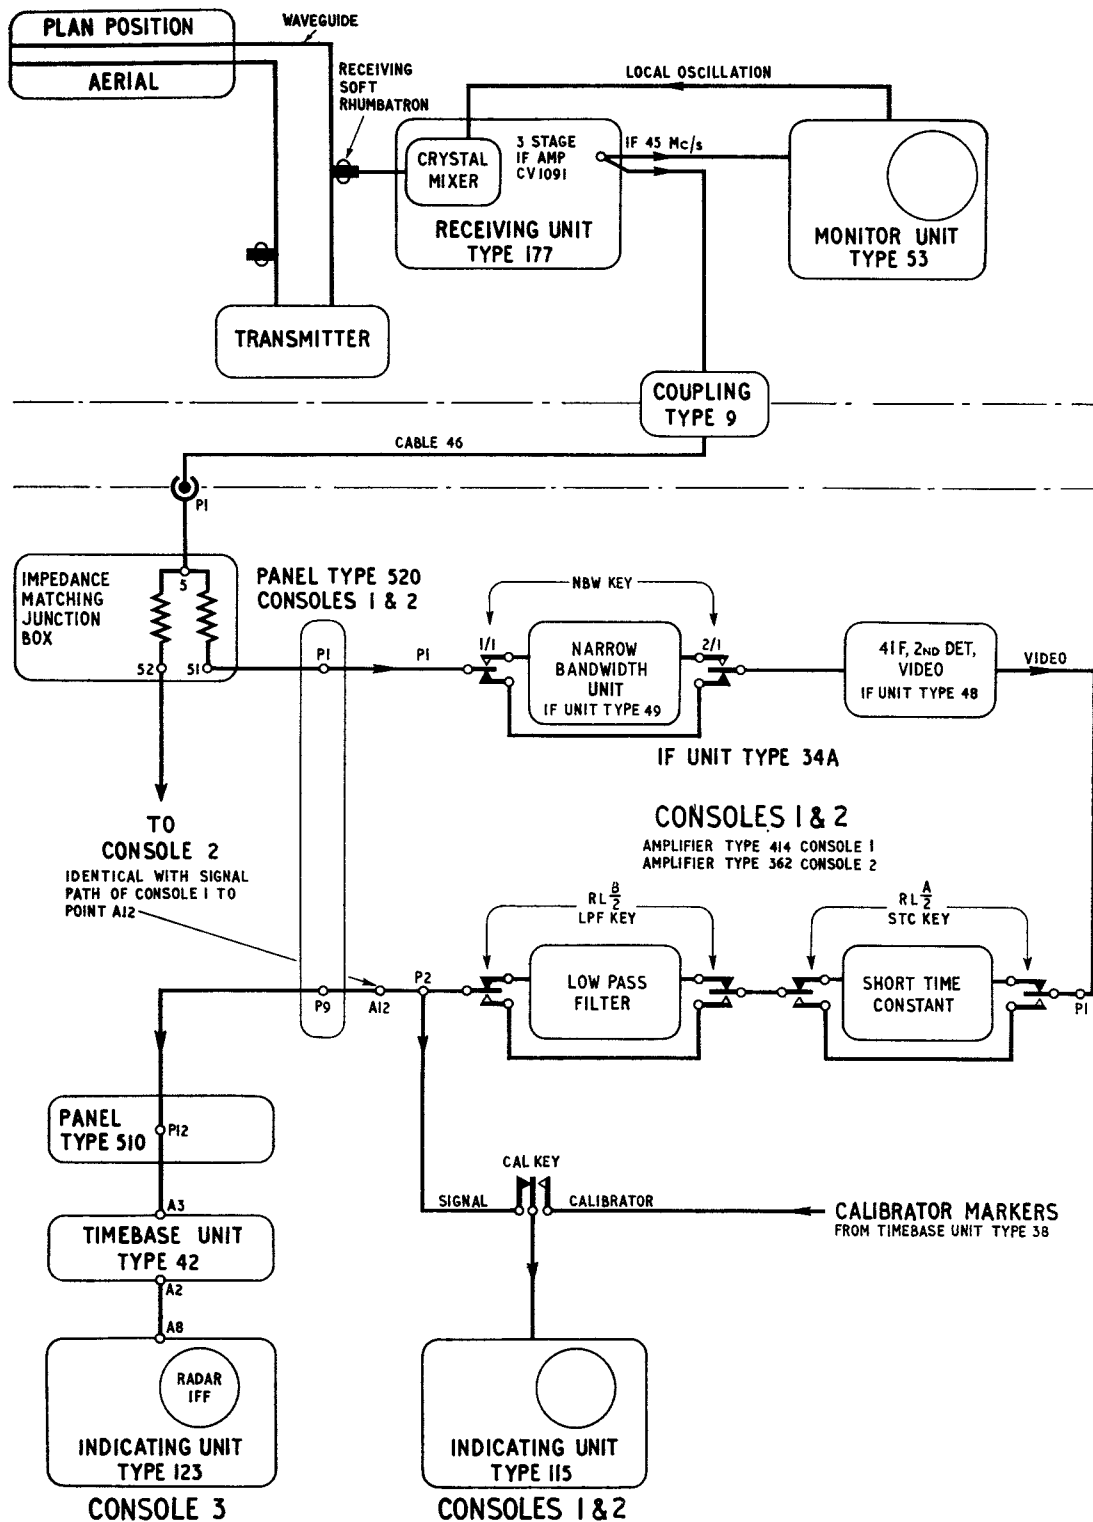
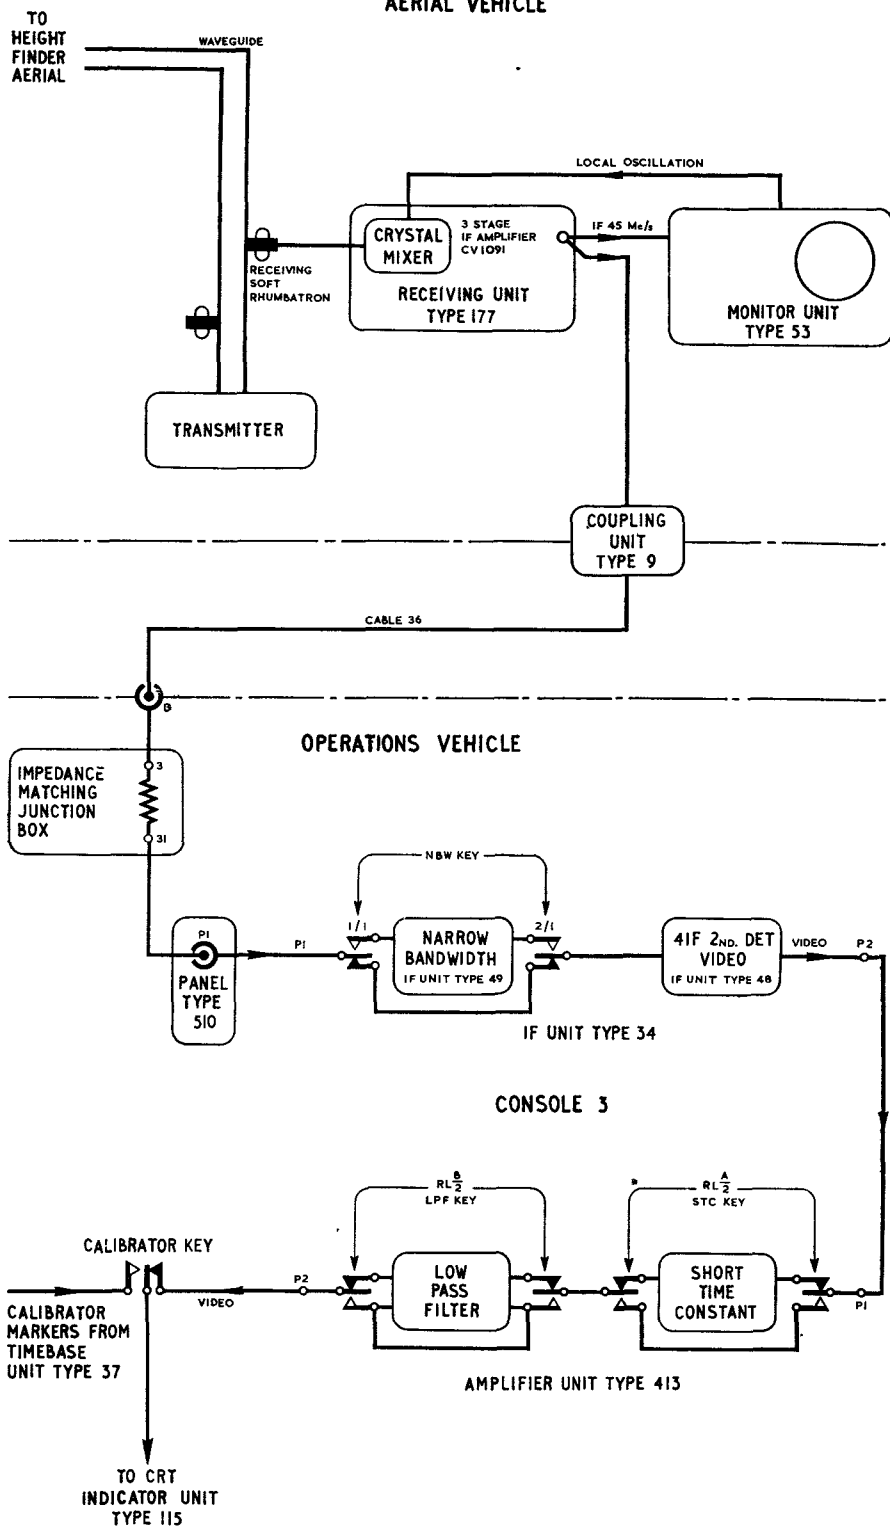

Fig. 35. Plan-position signal chain
Fig. 36. Height-finder signal chain
**109.** The paths of the outgoing pulse from the transmitter to the aerial and of the incoming pulse from the aerial to the display units are shown in fig. 35 in the case of the plan-position vehicle (AMES Type 14) and in fig. 36 for the height-finder (AMES Type 13).